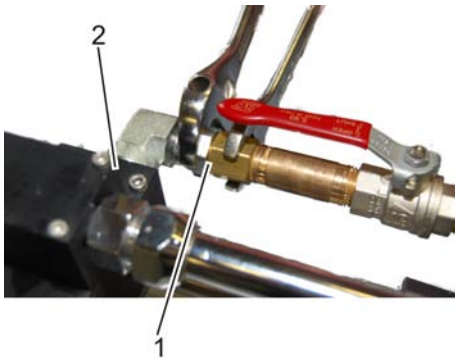

Fig. 40: Installing compressed air control unit
- 15.** ▶ Fasten piping (Fig. 40/1) of compressed air control unit to elbow union (Fig. 40/2).